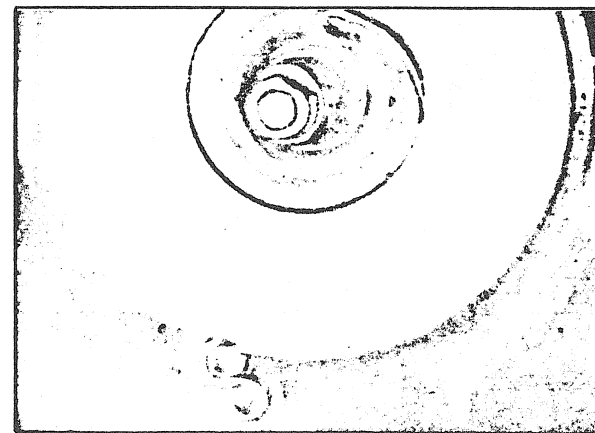

FIGURE 8
- Place the spring cartridge assembly into the housing and hook the spring end to the housing dowel pin. (Fig. 8).